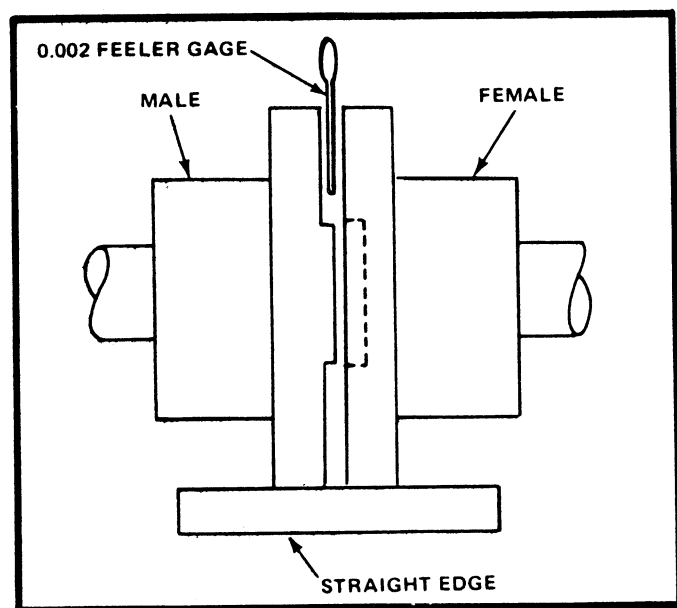

Figure 9-24. Checking Alignment (Parallelism) of Coupling and Propeller Flanges.
2. It will also be necessary to move the engine and transmission from one side or the other on the bed to obtain horizontal alignment. This can be done with a jack placed horizontally between the engine and the foundation. At the same time, a straight edge is laid across the edges of the flanges at the top and side-to-check the parallel alignment of the coupling edges. See Figure 9-24.